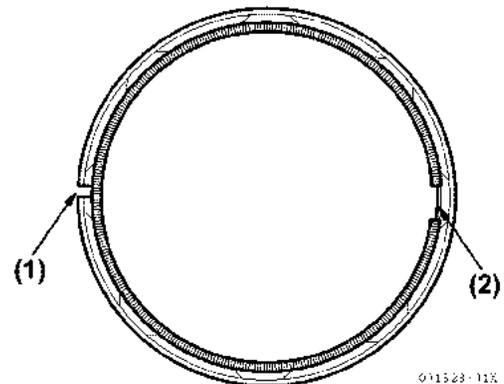

Figure 5-93
- The oil control ring includes a coil expander. The coil expander joint should be opposite (180°) the oil ring gap (Figure 5-93).